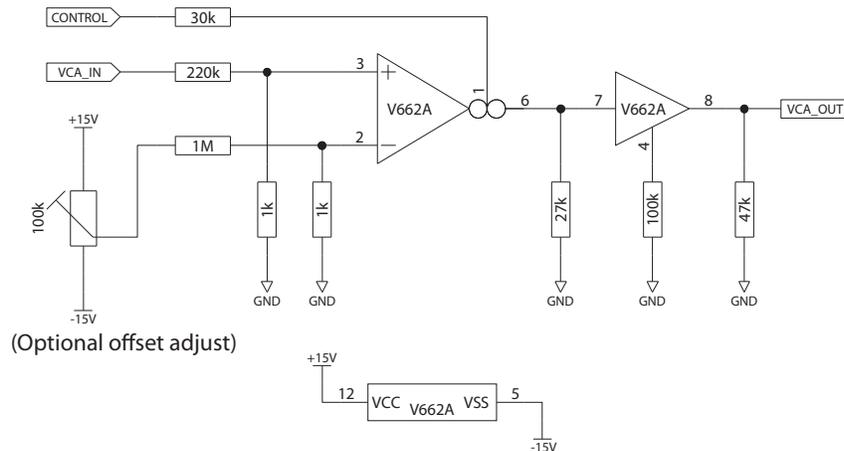

Fig.2 Voltage-controlled amplifier (electronic volume control)
- 1) Fig. 2 shows a voltage-controlled amplifier (AM modulation) as an example of an application of the V662A. By changing the $I_{CONTROL}$ current on Pin 1, the differential gain can be changed. The gain (AV), if the resistance of Pin 6 is R_O , is determined by the following equation: